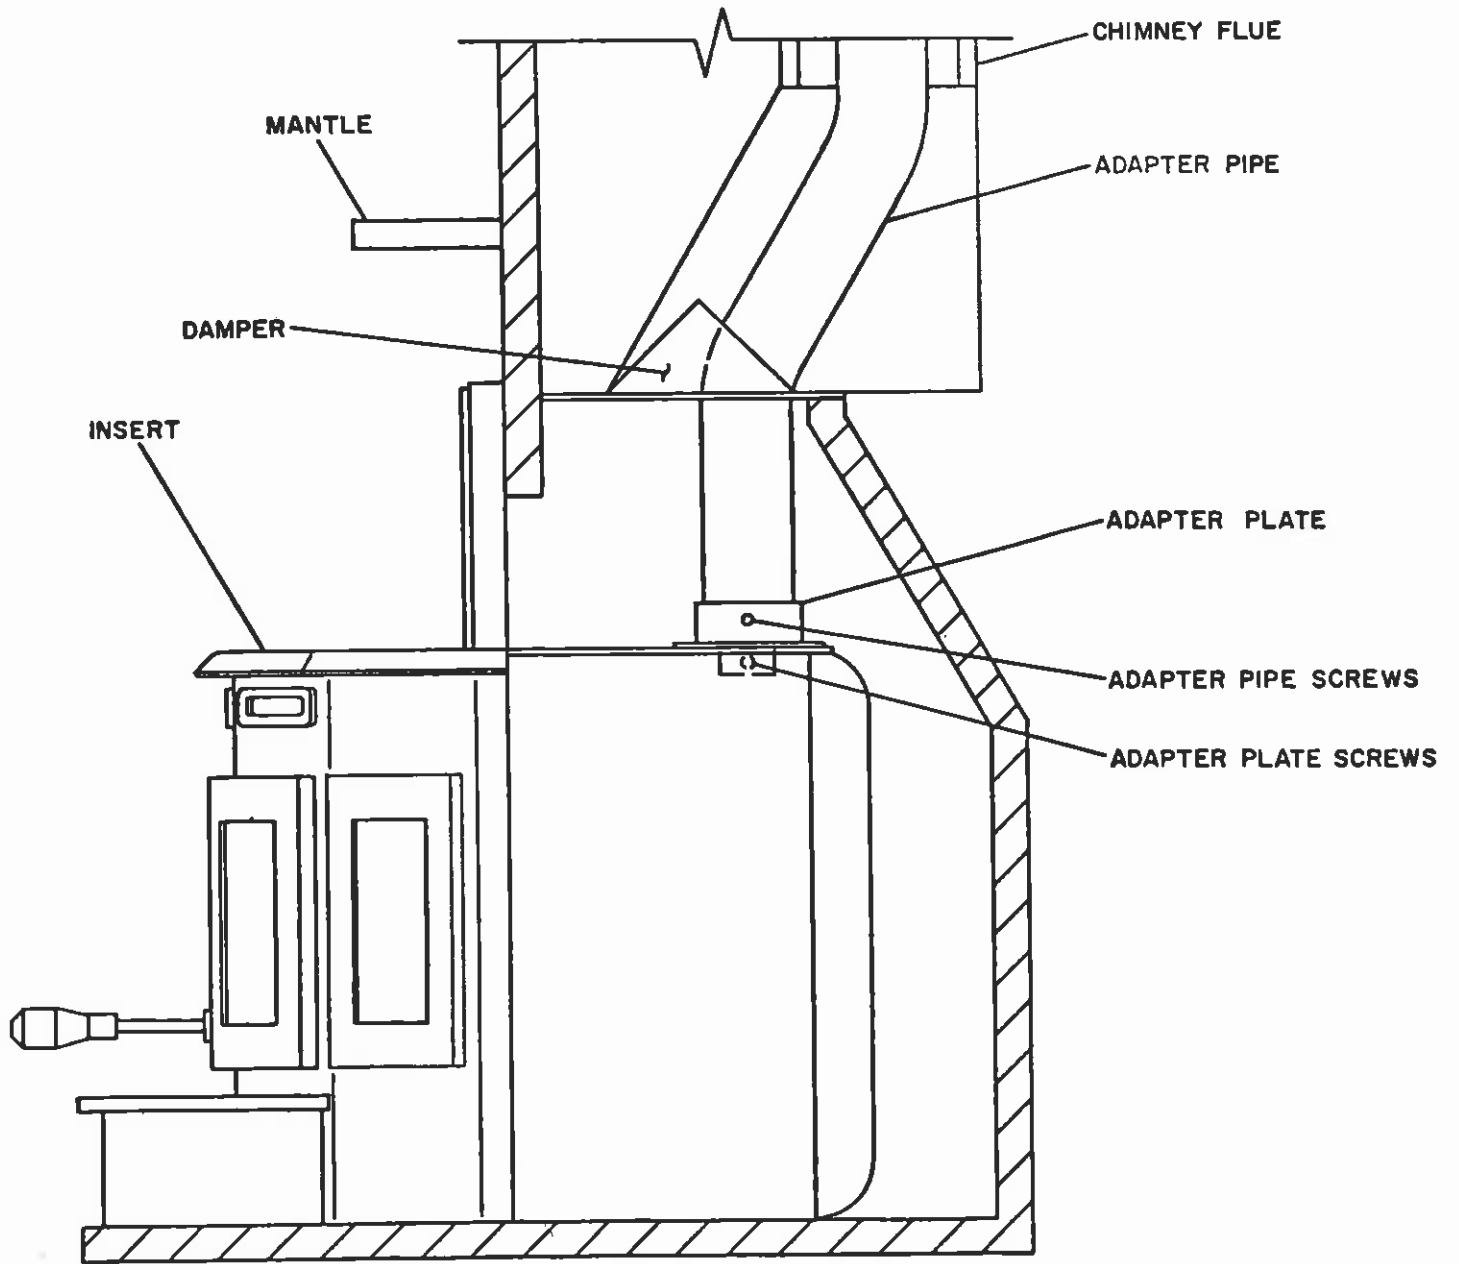

FIGURE 1
3. Insert the flexible adapter pipe through the damper and up into the chimney flue (some dampers may require some modification). Push pipe up into chimney flue until it is approximately the same height off the hearth as the fireplace opening height. (See Figure 1).
4. Install flue adapter plate to insert with (2) #10-24 Hex Head screws provided. (See Figure 1). (NOTE: If fireplace opening is less than 28 inches high the flue adapter plate must be fastened to the end of the adapter pipe with the (2) #8 Phillips Head sheet metal screws. It will be fastened to the insert after insert is installed in the fireplace.)